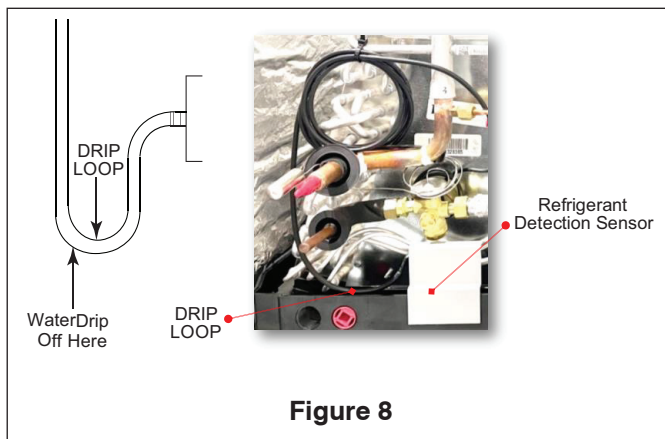

Figure 8
2. Run sensor cable through an opening in the casing. Use grommet supplied in the kit for hole (0.875") in the sheet metal to ensure cable is not damaged when exiting the coil casing. The installing contractor must ensure there is a drip loop (shown in Figure 8 below) in the harness to ensure condensation does not run into the sensor connection.